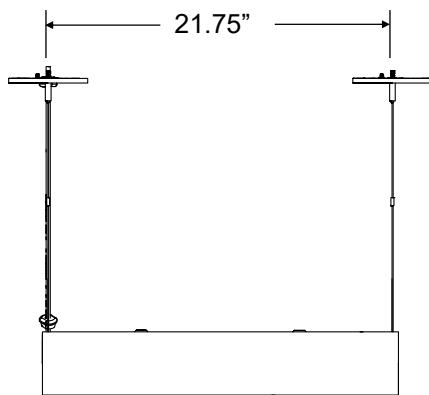

Fig.1 Stand Alone
3. Install Aircraft Cable using dimensions in Fig.1